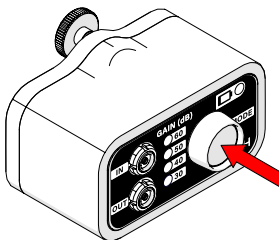

Fig. 30 - Press the mode button to activate
1. Press the Mode Button to activate the preamp (*Fig. 30*).
1. Press the Mode button to alternate between various GAIN settings (*Fig. 30*).
1. Press and hold the mode button until the indicator lights turn off. This confirms that the preamp has been deactivated (*Fig. 30*).